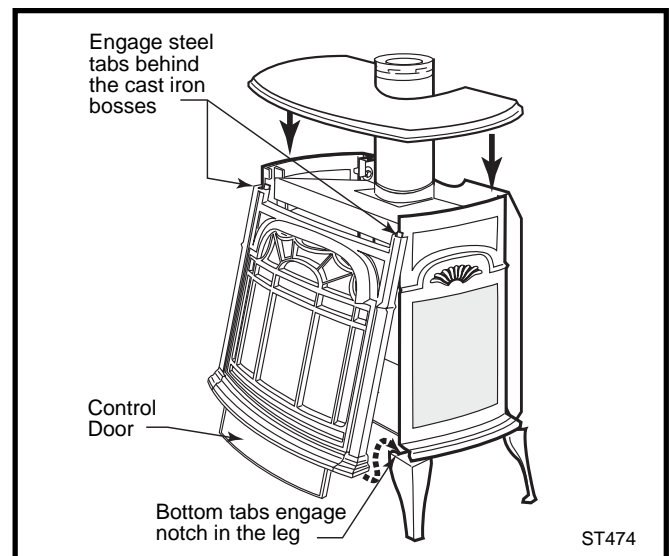

Fig. 49 Install the front plate.
1. Hold the front plate by the window bars and lift it into position, engaging the two steel tabs on the top corners behind the adjacent bosses in the side plates. (Fig. 49) Then seat the Front against the sides so the tabs at the bottom lip engage with the notches in the stove legs. When properly installed, the bottom of the Front Plate cannot be pulled away from the sides without also lifting it.
2. Place the top plate over the sides and front. The upper edges of the side plate should seat into the channel in the underside of the top. (Fig. 49)